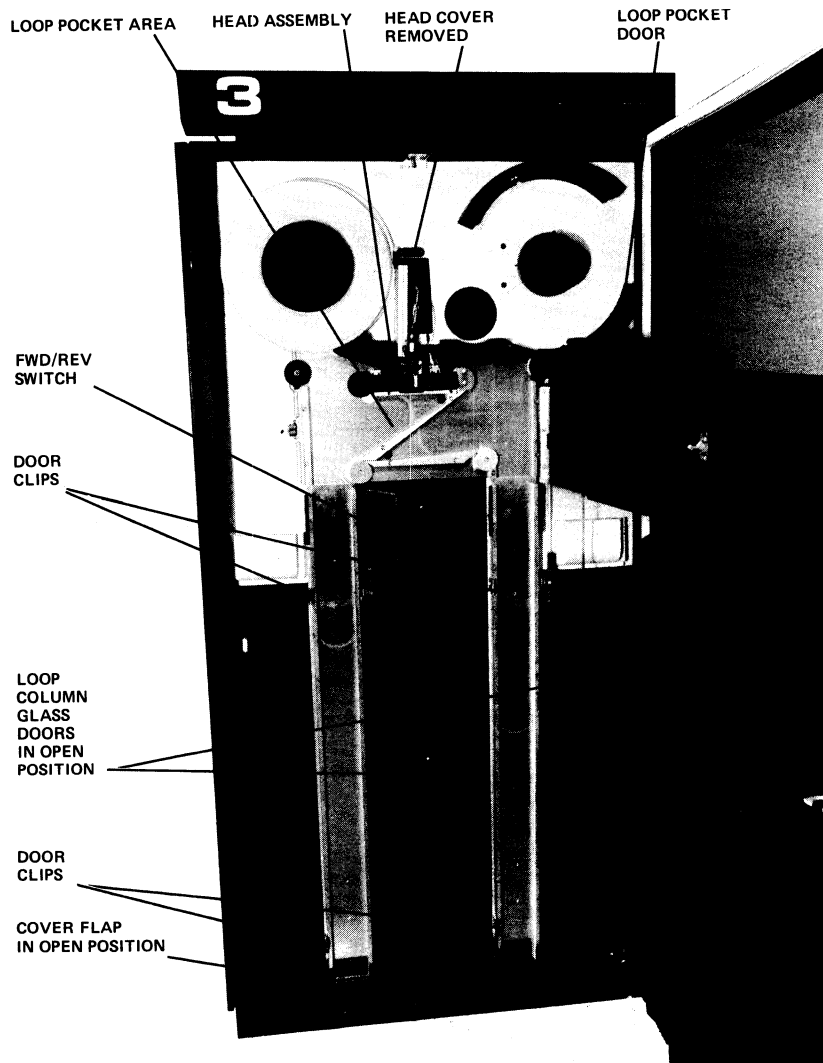

Figure 4-4. Cleaning Areas
NOTE: In the following cleaning procedures, note that two different tape transport cleaners are used. These cleaners should only be applied where specifically mentioned and should not be mixed or applied with the same cleaning tools. A cleaning kit with all of the necessary tools and cleaners is available from your Honeywell Computer Supplies Group. This procedure should be performed for every eight hours of operation. Refer to Figures 4-4 and 4-5.
4. Open loop pocket door and loop column glass doors (see Figure 4-4).